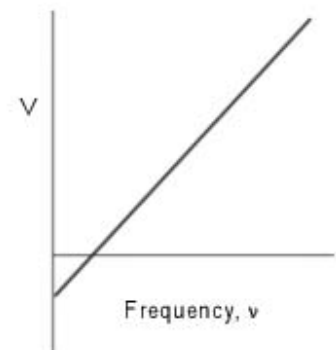

Fig. 1: Stopping Potential, V , versus Frequency
Einstein's theory predicts that if the frequency of the incident light is varied, and the 'stopping' potential, V , is plotted as a function of frequency, the slope of the line is h/e (see Figure 1).
- The slope of a plot of stopping potential versus frequency is the value of the ratio, h/e . See Figure 1.